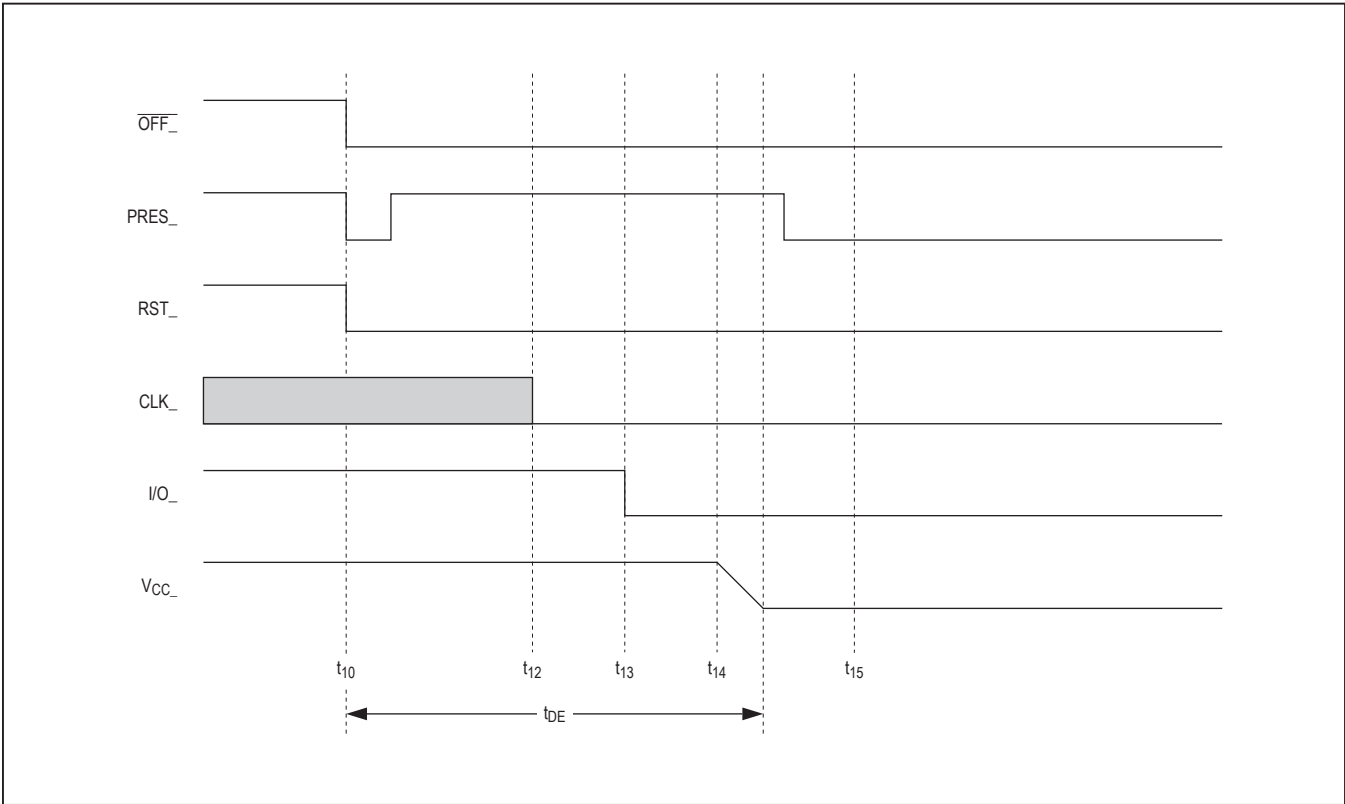

Figure 7. Emergency Deactivation Sequence (Card Extraction)
- **\overline{CMDVCC} Low Within a Card Session.** Output $\overline{OFF_}$ goes low when a fault condition is detected, and an emergency deactivation is performed automatically (Figure 7). When the system controller resets \overline{CMDVCC} to high, it may sense the $\overline{OFF_}$ level again after completing the deactivation sequence. This distinguishes between a card extraction and a hardware problem ($\overline{OFF_}$ goes high again if a card is present). Depending on the connector's card-present switch (normally closed or normally open) and the mechanical characteristics of the switch, bouncing can occur on the PRES_ signals at card insertion or withdrawal.